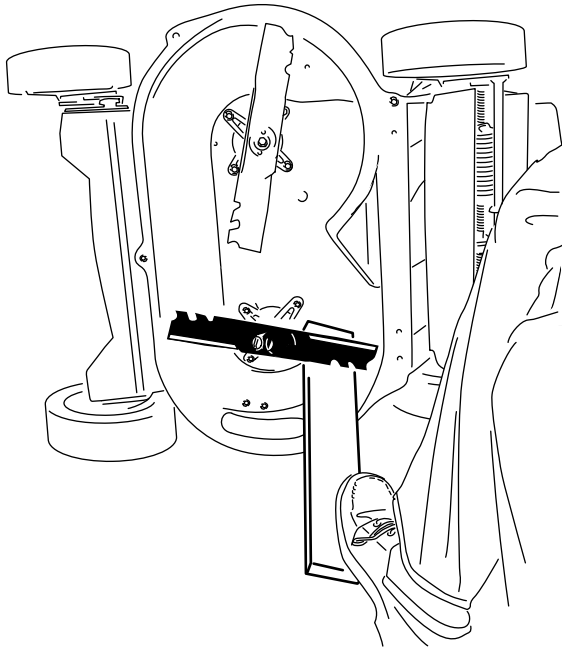

Figure 2
6. Use a block of wood to hold each blade steady (Figure 2).